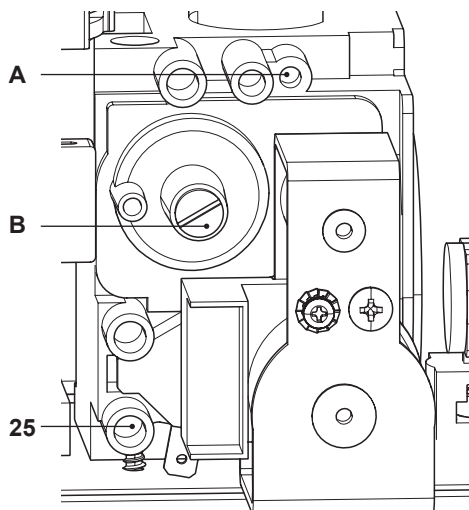

Fig. 7.8
- With the boiler switched on at full rate (maximum output power), check the supply pressure by using the 25 point in Fig. 7.8 and compare the value with that reported on the Gas supply pressure table (minimum inlet pressure) in the "Technical Data" section (page 24 **ADVANCE 25S** and page 27 **ADVANCE 30S**).
- Ensure the test nipple 25 in Fig. 7.8 is firmly closed.